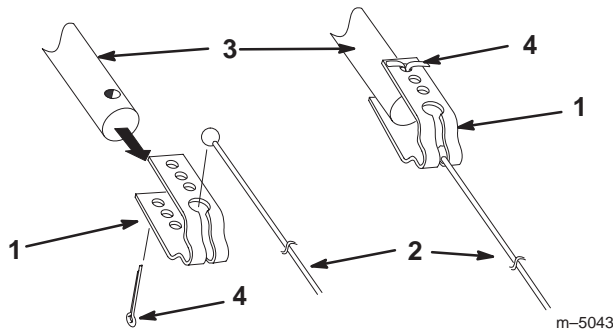

Figure 14
10. Attach the cable bracket to the angle pin at the blade assembly (Fig. 14) with a 1-1/4 in. cotter pin.
12. Remove the end of the cable from the cable bracket on the angle pin (Fig. 14).